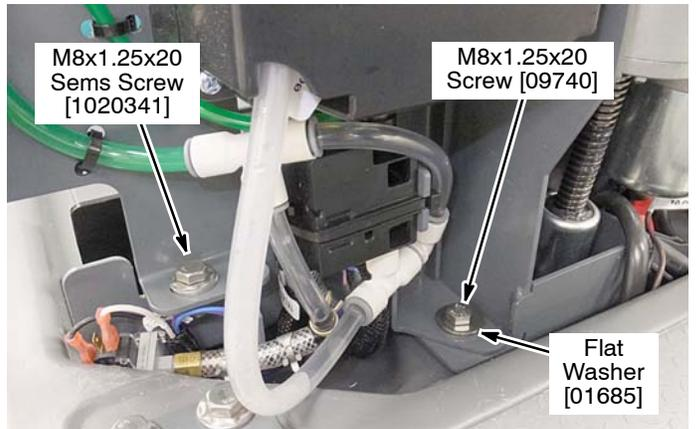

Fig. 32
- Mount the ec-H2O module assembly to machine frame with hardware as shown (Figure 32).